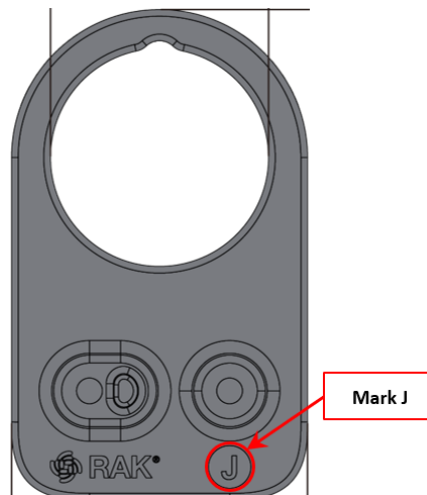

Figure 37: Mount accessory marked with letter J
1. For hook loop mount, use one (1) piece of mount accessory with an indicator marked with the letter **J**, as shown in **Figure 37**.